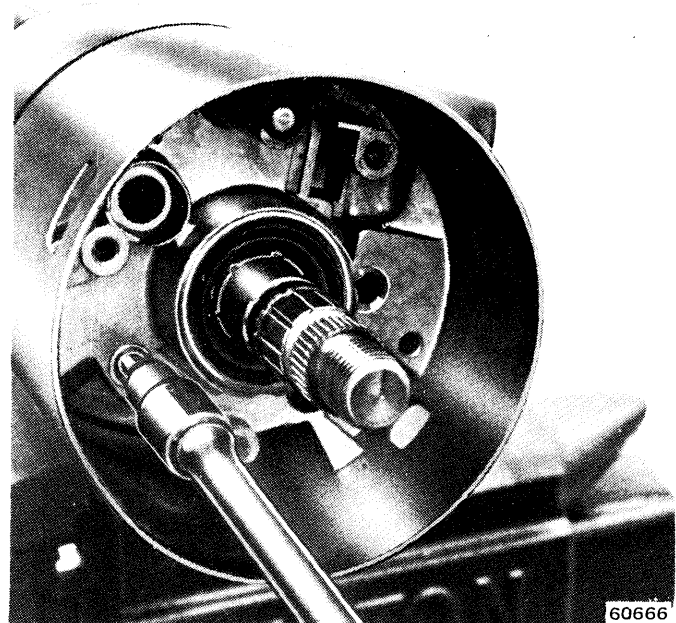
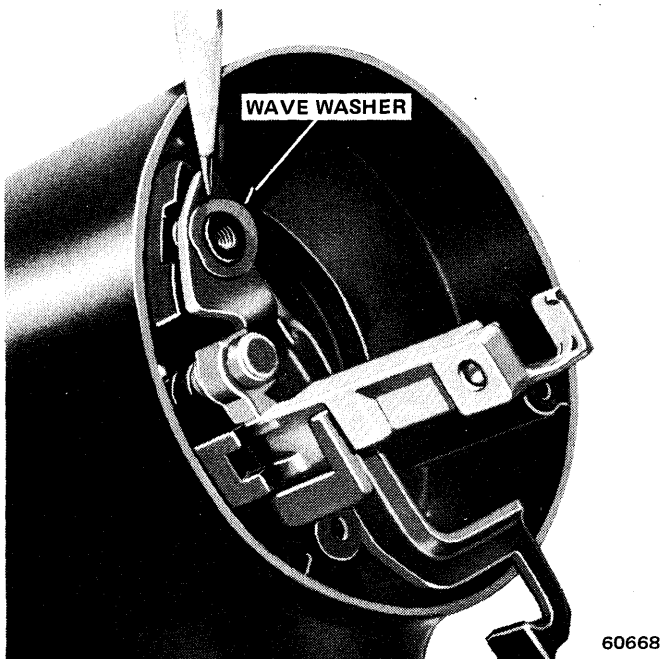

Fig. 11-9 Removing—Installing Housing and Shroud
Fig. 11-11 Wave Washer Position
(20) Remove screws attaching housing and shroud to column jacket (fig. 11-9) and remove housing and shroud.
- (23) Remove wave washer from key-release lever pivot and remove key-release lever and spring (fig. 11-11).
- (8) Coat wave washer with multi-purpose grease and install washer on post and over release lever (fig. 11-11).
- (9) Position shroud on housing and install attaching screws. Tighten screws to 18 inch-pounds torque. Do not displace release lever wave washer when assembling shroud and housing.
- (10) Install remote rod on lock rack. Insert short hooked end of rod in lock rack.
- (11) Install assembled shroud and housing on column and install attaching screws (fig. 11-9). Tighten screws to 60 inch-pounds torque.
- (12) Install lock cylinder in housing. Insert key in lock, hold cylinder sleeve, and rotate key clockwise until key stops (this retracts actuator).